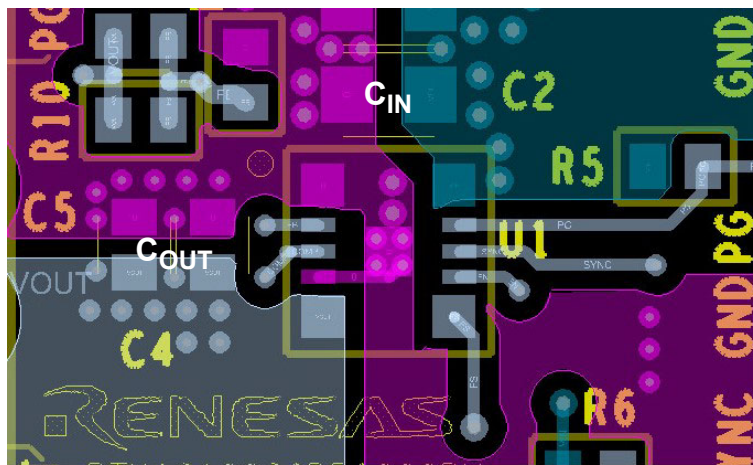
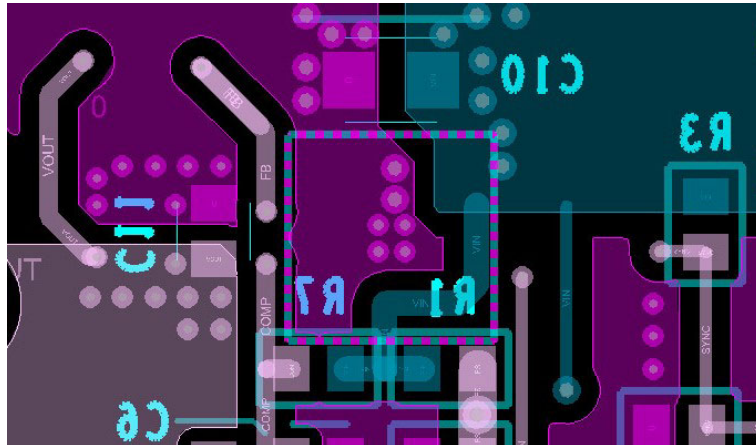

Figure 37. Layout Example - Top Layer
Figure 38. Layout Example - Bottom Layer
- Place the input ceramic capacitors as close as possible to the module input. These ceramic capacitors minimize the high frequency noise by reducing the parasitic inductance of the power loop. Proper placement of these capacitors not only leads to less PHASE node spikes and ringing, but also minimizes the switching noise coupled to the module. Renesas recommends using dielectric X5R or better with a minimum total capacitance of 22 μ F at the module input. A layout example is shown in Figure 37 and Figure 38.